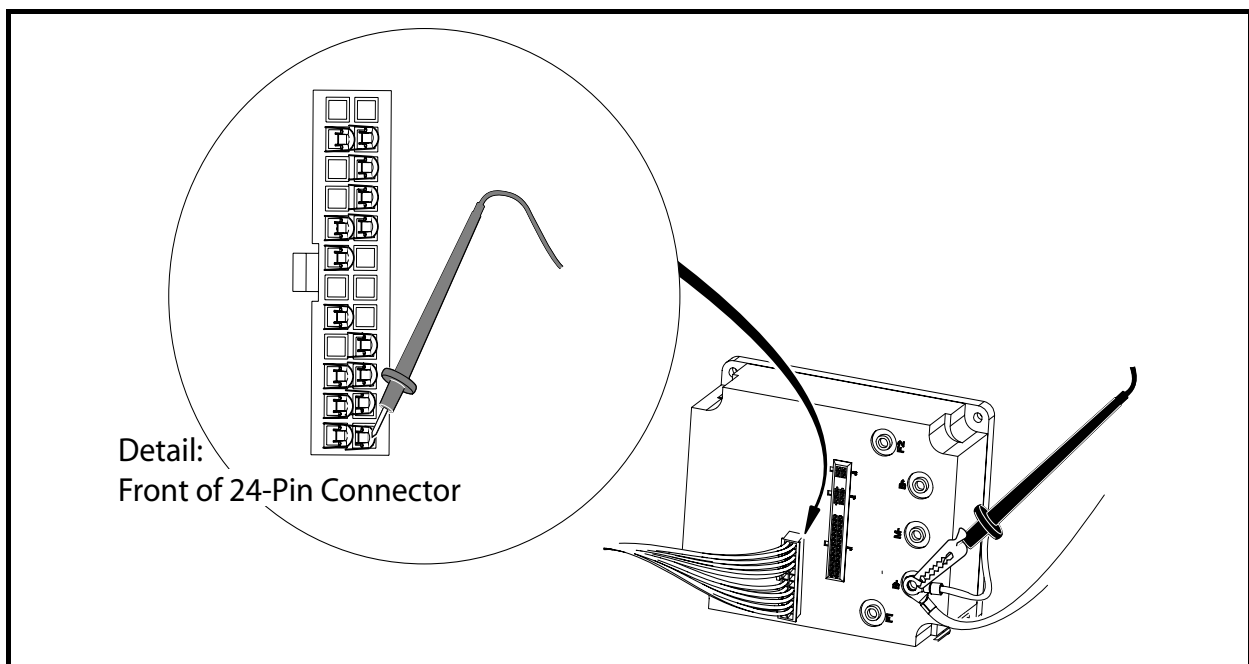

Figure 11-23 Test: Pin 1 (Tan Wire)
4. With a multimeter set for 200 volts DC, insert the red (+) probe of the multimeter into pin 1 (tan wire) of the 24-pin connector. **See following CAUTION.** With an alligator clip, connect the black (-) probe to the B- terminal of the speed controller (**Figure 11-23, Page 11-34**).